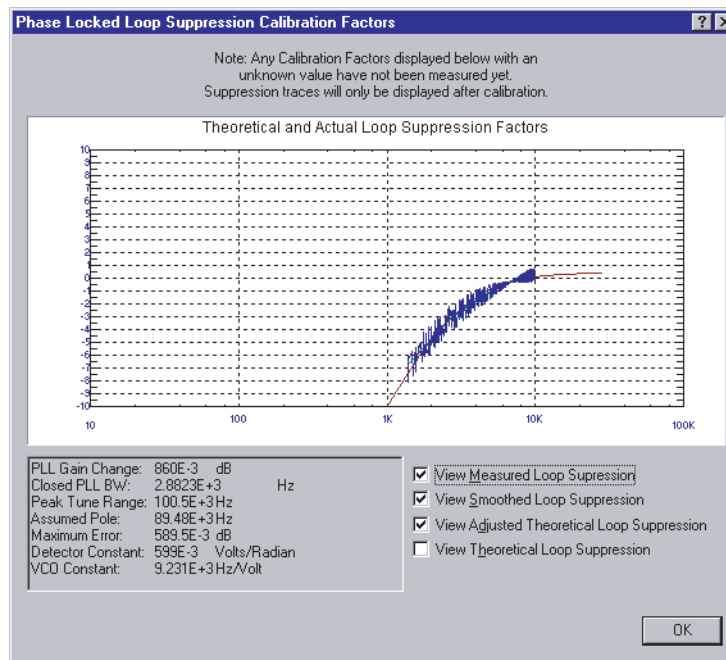

Figure 58 Suppression selections
- 2 When the PLL Suppression Curve dialog box appears, select **View Measured Loop Suppression**, **View Smoothed Loop Suppression**, and **View Adjusted Loop Suppression**. See Figure 58 on page 95.